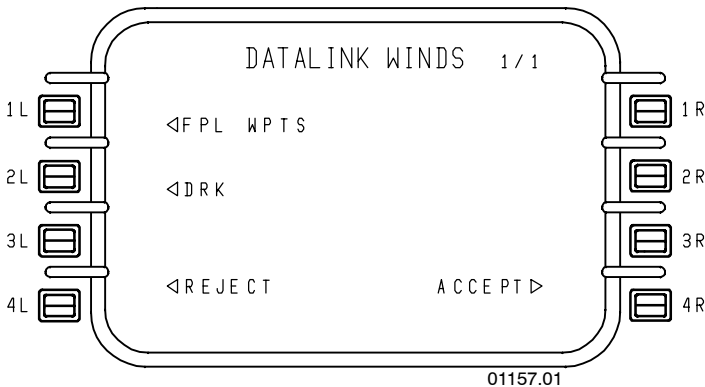

Figure 6-89
- **4R** - This key initiates the wind request downlink. The request is sent to the GSP. During this process, the FMS displays SENDING. Upon receiving the requested data from the GSP, the FMS displays the NEW WINDS AVAIL scratchpad message. The DATALINK WINDS page changes as shown in Figure 6-89.